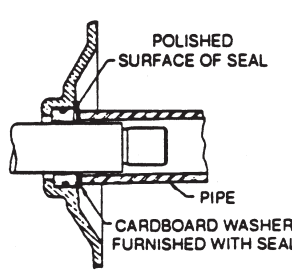

FIGURE 3
4. Press seat into cavity firmly and squarely with finger pressure. If seat will not locate properly in this manner, place cardboard washer over polished face of seat, and use piece of standard pipe for pressing purposes. (Figure 3)